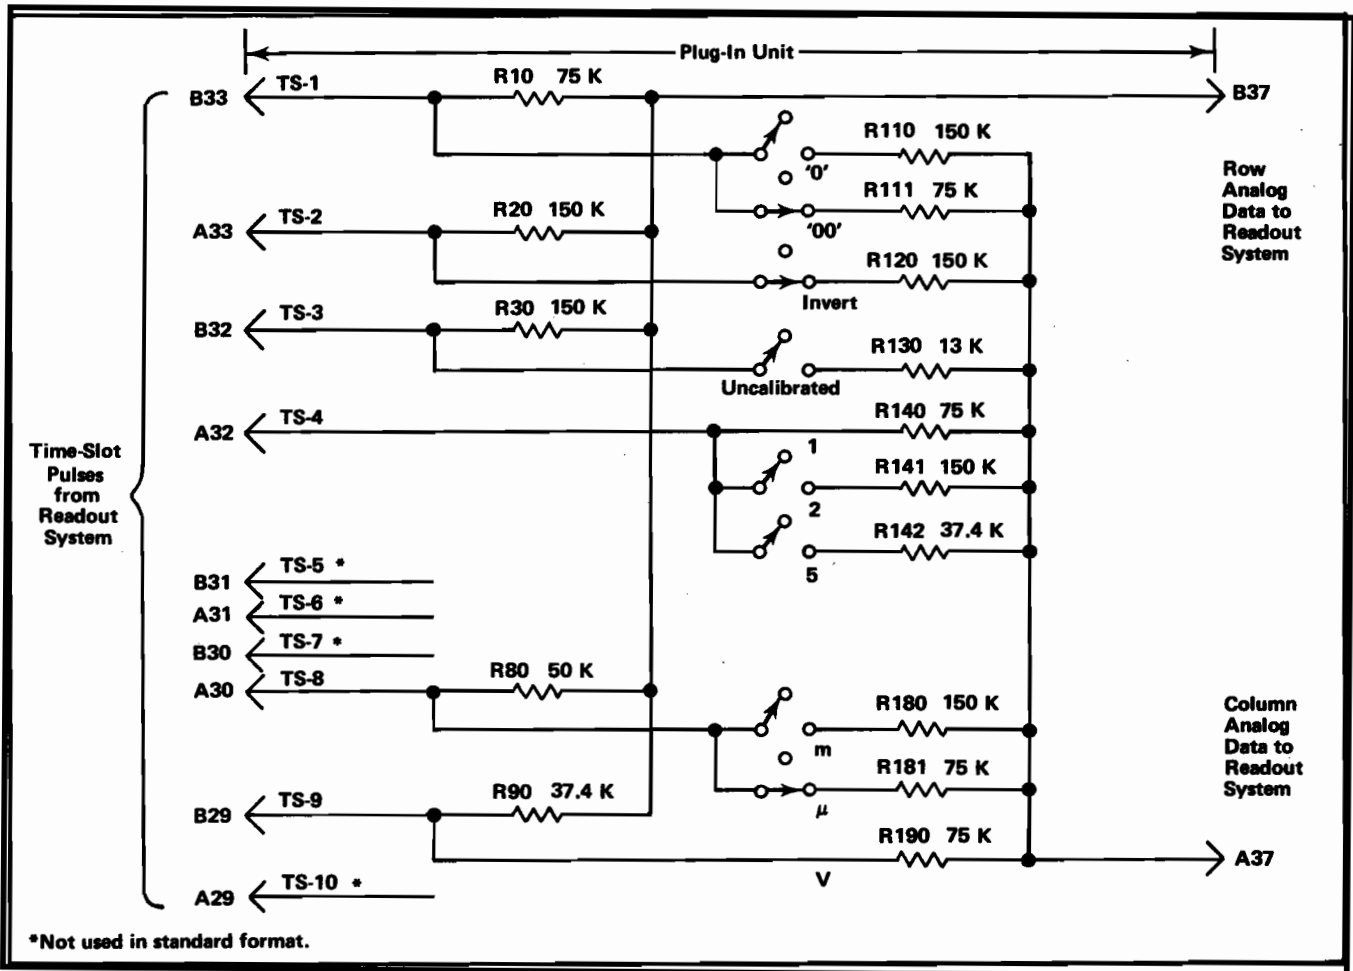

Fig. 3-38. Typical encoding scheme for voltage-sensing plug-in unit. Coding shown for deflection factor of 100 microvolts.
Data is conveyed from the plug-in unit to the Readout System in the form of an analog code having up to 11 current levels (from zero to one milliamperere in 100 microampere steps). The characters which can be selected by the encoded data are shown on the Character Selection Matrix (see Fig. 3-31). Each character requires two currents to define it; these currents are identified as the column current and the row current which correspond to the column and row of the matrix. The column and row data is encoded by resistive programming in the plug-in units. Fig. 3-38 shows a typical encoding scheme for a voltage-sensing amplifier plug-in unit. Notice that the 10 time-slot (TS)
For example, in Fig. 3-38, resistors R10 through R90 control the row analog data which is connected back to the Readout System. These resistors are of fixed value and define the format in which the information will be presented by the Readout System. Fig. 3-39A shows an idealized output current waveform of row analog data which results from the 10 time-slot pulses. Each of the steps of current shown in these waveforms corresponds to 100 microamperes of current. The row numbers on the left-hand side of the waveform correspond to the rows in the Character Selection Matrix shown in Fig. 3-31. The row analog data is connected back to the Readout System via terminal B37 of the plug-in interface.
The Column analog data is defined by resistors R110 through R190. The program resistors are connected to the time-slot lines by switch closures to encode the desired data. The data as encoded by the circuit shown in Fig. 3-38 indicates a 100 microvolt sensitivity with the display inverted and calibrated vertical deflection factors. This results in the idealized output current waveforms shown in Fig. 3-39B at the column analog data output, terminal A37 of the plug-in interface. Resistor R111, connected between time-slot 1 and the column analog data output encodes two units of current during time-slot 1. Referring to the Character Selection Matrix, two units of column current along with the two units of row current encoded by R10 (row 3) indicates that two zeros should be added to the display. Resistor R120 adds one unit of column current during time-slot 2 and along with the one unit of current from the row output, the Readout System is instructed to add an invert arrow to the display. R130 is not connected to the time-slot 3 line since the vertical deflection factors are calibrated. Therefore, there is no column current output during this time-slot and there is no display on the CRT (see Display-Skip Generator for further information). During time-slot 4, two units of column current are encoded by R140. There is no row current encoded during this time-slot and this results in the numeral 1 being displayed on the CRT. Neither row nor column analog data is encoded during time-slots 5, 6 and 7 as defined by the Standard Readout Format. During time-slot 8, two units of column current and three units of row current are encoded by resistors R181 and R80 respectively. This addresses the  $\mu$  prefix in the Character Selection Matrix. The final data output is provided from time-slot 9 by R190 connected to the column output and R90 to the row output. These resistors encode three units of column current and four units of row current to cause a V (volts) to be displayed. Time-slot 10 is not encoded in accordance with the Standard Readout Format. The resultant CRT readout will be  $\downarrow 100 \mu$ V.
connectors of vertical plug-in units. A special coding ring around the input connector of the plug-in unit senses the attenuation ratio of the probe (with readout-coded probes only). The probe contains a resistor which results in additional column current. For example, if a 10X attenuator probe is connected to a plug-in with the coding for 100 microvolts as shown in Fig. 3-38, an additional unit of current is added to the column analog data during time-slot 1. Since two units of current were encoded by R111 (see Fig. 3-38), this additional current results in a total of three units of column analog current during this time-slot. Referring to the Character Selection Matrix, three units of column current along with the two units of row current encoded by R10 indicates that the prefix should be reduced. Since this instruction occurs in the same time-slot which previously indicated that two zeros should be added to the display and only one instruction can be encoded during a time-slot, the zeros do not appear in the display. The CRT readout will now be reduced to 1 mV (readout program produced by plug-in same as for previous example).
Finally, memory C is interrogated during time-slot 8 to obtain information on whether the prefix should be reduced or left at the value which was encoded. If data has been encoded which calls for a reduction in prefix, a negative-going output level is produced at pin 7. This negative level subtracts one unit of column current from the data at the input to the Column Decoder stage. Notice on the Character Selection Matrix of Fig. 3-31 that a reduction of one column when row 4 is programmed results in a one unit reduction of the prefix. For example, with the 100  $\mu$ V program shown in Fig. 3-38, if the data received from the plug-in called for a reduction in prefix the CRT readout would be changed to 1 mV (zeros deleted by program; see Encoding the Data).